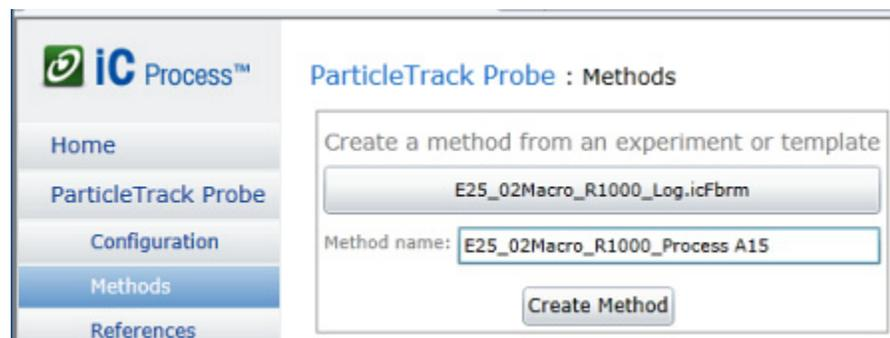

Figure 3-13 Methods main page—Template selected and renamed
1. From the Methods list on the main Methods page (Figure 3-13), click the name of the one to view or edit.